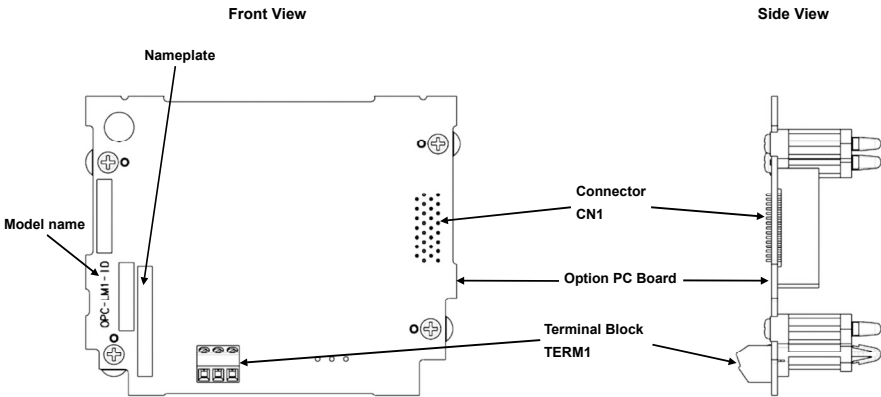

Figure 1.1 Product Appearance.
- (1) The option card is contained in the package.
- (2) The option card is not damaged during transportation-no defective electronic devices, dents or warps.
- (3) The model name "OPC-LM1-ID" is printed on the option card. (See Figure 1.1)